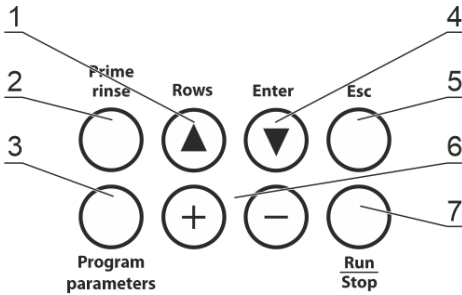
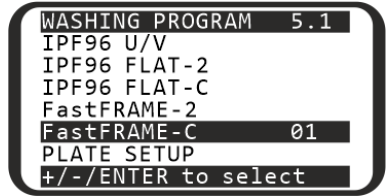
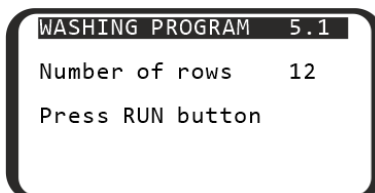
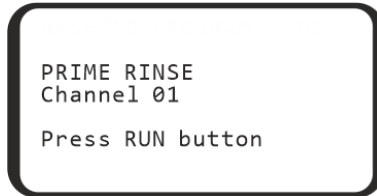

Figure 7. Control panel keys
Figure 8. Program selection
Figure 10. Row count selection menu
Figure 15. Rinsing the tubes, channel selection.
- To select a row, press the **Enter ▼** key (fig. 7/4). Row selection is looped.
- To change the row value, use the **+** and **-** keys (fig. 7/6)
5.5.2 In figure 8, the user chose the first program (01) of the fifth type (FastFRAME). The choice can be seen in the top right corner (5.1).
5.6.2 To view the parameters of a program, press the **Program Parameters** key (fig. 7/3).
- To exit without saving, press the **Esc** key (fig. 7/5)
5.7.1 By default, the unit washes all rows of the microplate. In order to wash less rows, when in the program selection menu (figure 8) press **Rows ▲** (fig. 7/1). Display shows the row count menu (figure 10). Using the **+** and **-** keys, set the necessary number of rows. To cancel and return to the previous menu, press **Esc**. To save and start the program, continue reading.
5.7.2 Press the **Run/Stop** key (fig. 7/7) to start the program. The program can be started from the program selection menu, program parameters menu, or row count selection menu (figures 8, 9, or 10). To abort and return to program selection, press **Esc** key.
6.2.3 Press the **Prime rinse** (fig. 7/2), display shows the rinsing menu (figure 15). Select the channel of the attached tube using the + and – keys. Channel number can be found on the rear panel of the unit, under the attached tube (fig. 4/5–4/7)